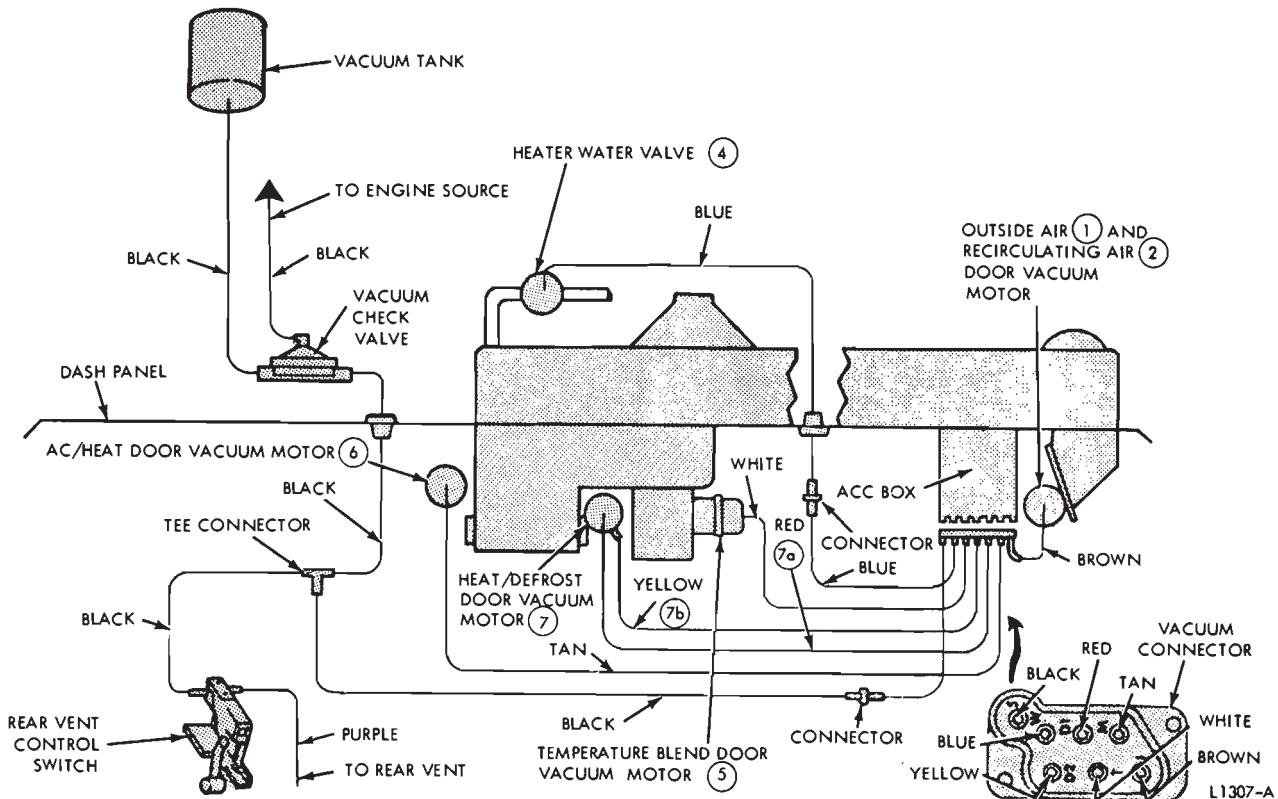

FIG. 15—Automatic Climate Control Vacuum System Schematic—Thunderbird and Continental Mark III
The vacuum control system (Fig. 15) consists of a vacuum supply tank and integral check valve, a vacuum motor actuated heater water valve (4), three vacuum motor actuated air doors, A.C.C. box (Automatic Climate Control), a vacuum motor actuated power servo (temperature blend door (5) vacuum motor) and the required vacuum tubing and junction blocks to connect the components. The vacuum reservoir and integral check valve is located on the front of the left fender apron.